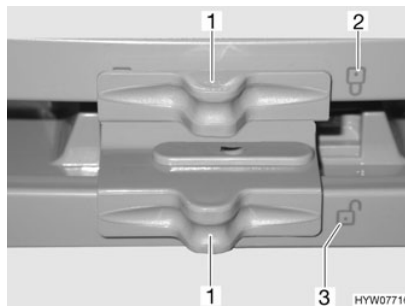

Fig. 77 Locking of the refrigerator door/freezer compartment door (Dometic 7 series with separate freezer compartment)
- Push the lock (Fig. 77,1) to the side, so that the open lock "G" (Fig. 77,3) is completely visible.
- Push the lock (Fig. 77,1) to the side, so that the closed lock "U" (Fig. 77,2) is completely visible.